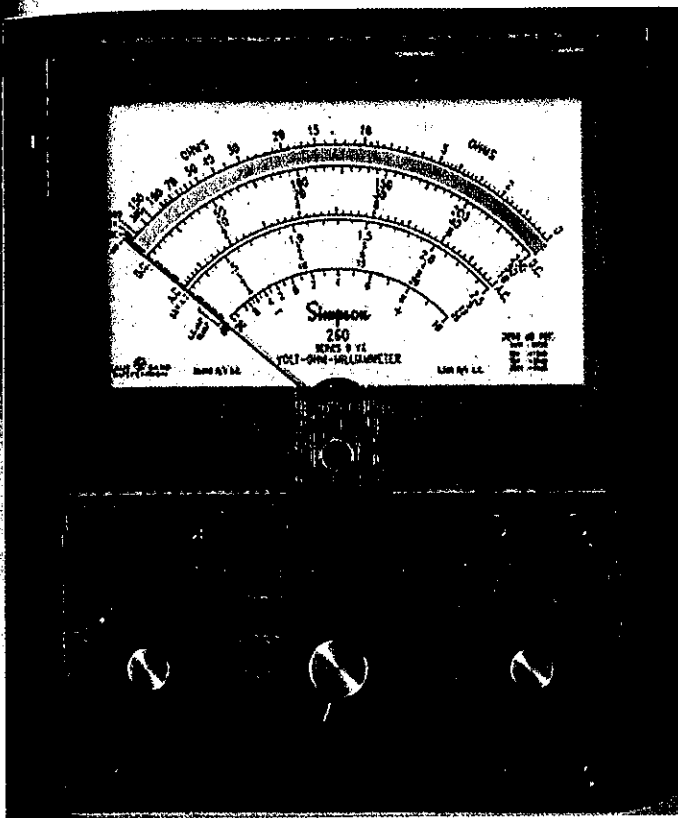
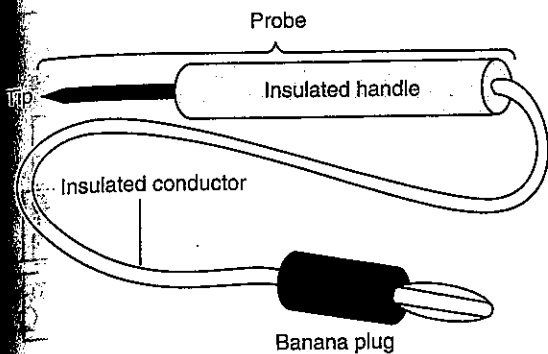

Fig. 3-11 Multimeter (VOM).
Fig. 3-14 Test lead.
Like most analog multimeters, the meter in Fig. 3-11 has multiple scales printed on its face and can measure current, voltage, and resistance. An analog meter that can measure these three quantities is often called a *volt-ohm-milliammeter (VOM)*.
The VOM (multimeter) in Fig. 3-11 has five functions (ac voltage, dc voltage, dc current, resistance, and continuity). The function switch (on the left side of the meter) has four positions. One position (AC VOLTS ONLY) is used for measuring ac voltage. Two positions (–DC and +DC) are used for measuring dc voltage, dc current, and resistance. Which quantity is being measured in either of these two positions is determined by the position of the range switch (located in the center of the meter). The fourth position (note symbol) is used for checking continuity. In this position, a tone is emitted whenever there is a low-resistance path for current between the test-probe tips.
The ohm scale on the meter in Fig. 3-11 is different from most voltage and current scales in three ways. First, it is reverse-reading. Second, it is nonlinear. Third, the number of minor divisions between the heavy lines (and the numbered lines) is not the same throughout the scale. Therefore, the value of a minor division varies across the scale.
The bottom scale on the VOM in Fig. 3-11 is a dB (decibel) scale. A dB is 1/10 of a bel, which is a unit of relative power or change in power. For example, the power output of an audio amplifier relative to the power input of the amplifier can be expressed in bels or decibels. The decibel is a nonlinear (logarithmic) unit that expresses changes in power levels in much the same way that the human ear perceives changes in the audio power output of a speaker. To the ear, a change in audio power from 0.2 W to 2 W is perceived as just as large a change as changing from 2 W to 20 W. Both represent a power change of 10 dB.
The meter in Fig 3-11 is set to the  $R \times 100$  range. The needle points to the second mark to the left of the 20 mark. How much resistance is the meter indicating?
Refer to Fig. 3-11. Assume that the function switch is on + DC, the range switch is on 25 V, and the needle points one division left of the 200 mark on the 0 to 250 scale.
Notice in Fig. 3-11 that there is a separate (slightly nonlinear) scale for the 2.5 V ac range. Having a separate scale for the lowest ac voltage range is very common for analog multimeters.
range switch (see Fig 3-11). These additional ranges are selected by inserting the test leads in the appropriate (labeled) jacks.
All electrical quantities to be measured are applied to the meter through test leads. A typical test lead is illustrated in Fig. 3-14. For most measurements, the test leads plug into the two jacks in the lower right-hand corner of the meter shown in Fig. 3-11. A black lead goes in the COMMON - jack, and a red lead in the + jack. The black lead is negative and the red lead positive when the function switch is in the +DC position. When the function switch is in the -DC position, the black lead (COMMON -) is positive. Of course, the red lead also reverses polarity. The +DC position should be used except when special measurements are being made. In this way, the red lead is positive. Red is the color often used to indicate positive in electric circuits.
When resistance is measured, the VOM must first be ohms-adjusted. The *ohms-adjust control* is labeled "zero OHMS" in Fig. 3-11. This control is rotated until the meter indicates zero on the ohms scale *when the test-lead tips are touching each other*. The ohms-adjust control must be adjusted for each range of the ohms function. Thus, every time the range is changed, the leads must be touched together and the meter adjusted to zero. No such adjustment is needed with the DMM.
22. Refer to Fig. 3-11. The needle points one mark to the right of 20. The range is set on  $R \times 100$ . What is the resistance?
23. Refer to Fig. 3-11. Assume that the meter is on the DC function and the 100-mA range. The needle is pointing to 20 on the third scale from the top. How much current is indicated by the meter?